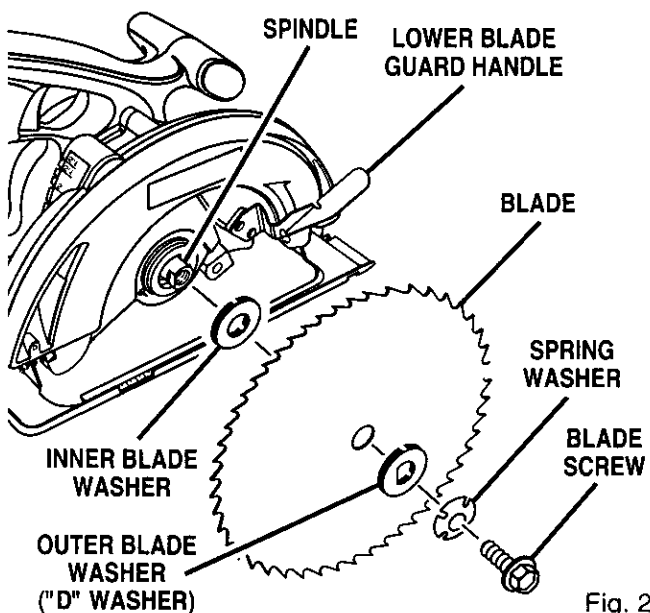
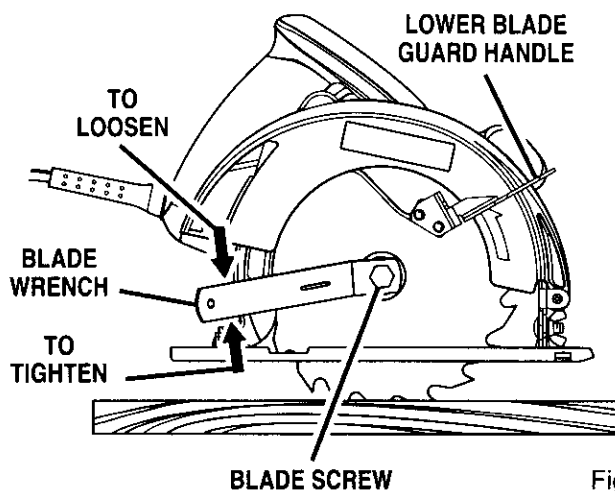

Fig. 2
Fig. 4
See Figures 2, 3, and 4.
■ Place your saw on a piece of wood as shown in Figure 4, and remove blade screw. See Figure 2.
■ Remove spring washer, and outer blade washer ("D" washer). See Figure 2.
■ Fit saw blade inside lower blade guard and onto spindle. **Note:** The saw teeth point upward at the front of saw as shown in Figure 2.
■ Place your saw on a piece of scrap wood as shown in Figure 4, and remove blade screw. See Figure 2. **Note:** With blade teeth embedded in the wood, turn blade screw counterclockwise to remove.
■ Remove spring washer and outer blade washer ("D" washer). See Figure 2.